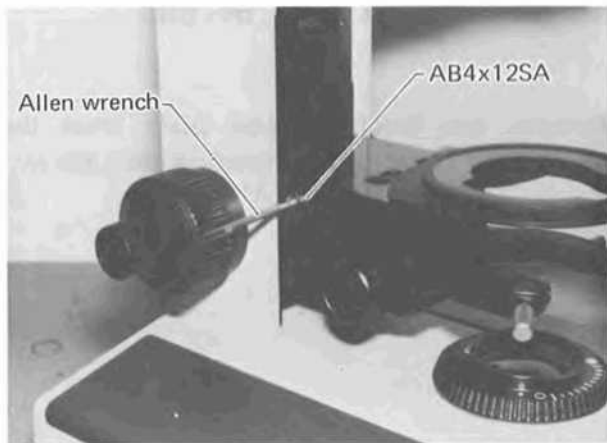

Fig. 3-4
- 3-2-1 With an Allen wrench, loosen Stopper AB4x12SA on the left side. (See Fig. 3-4.)